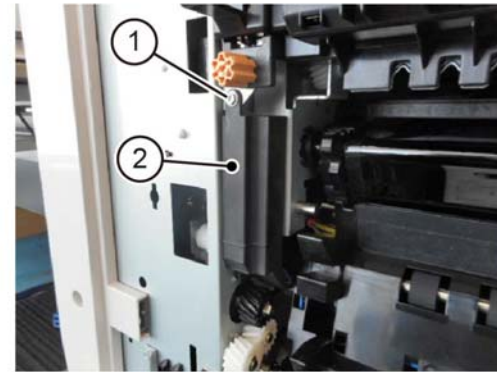

Figure 1 Connector cover removal
3. Remove the connector cover, Figure 1:
- a. Remove the screw (1).
- b. Remove the connector cover (2).